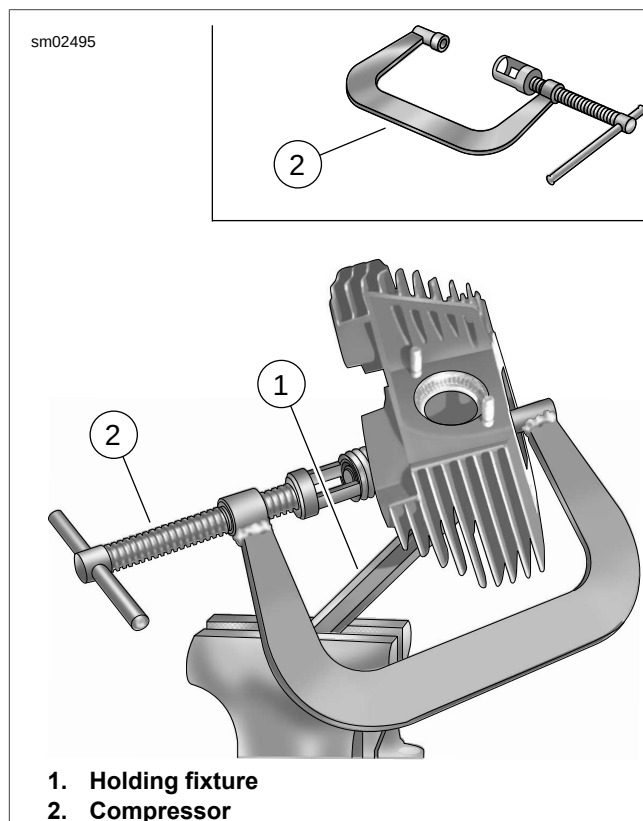
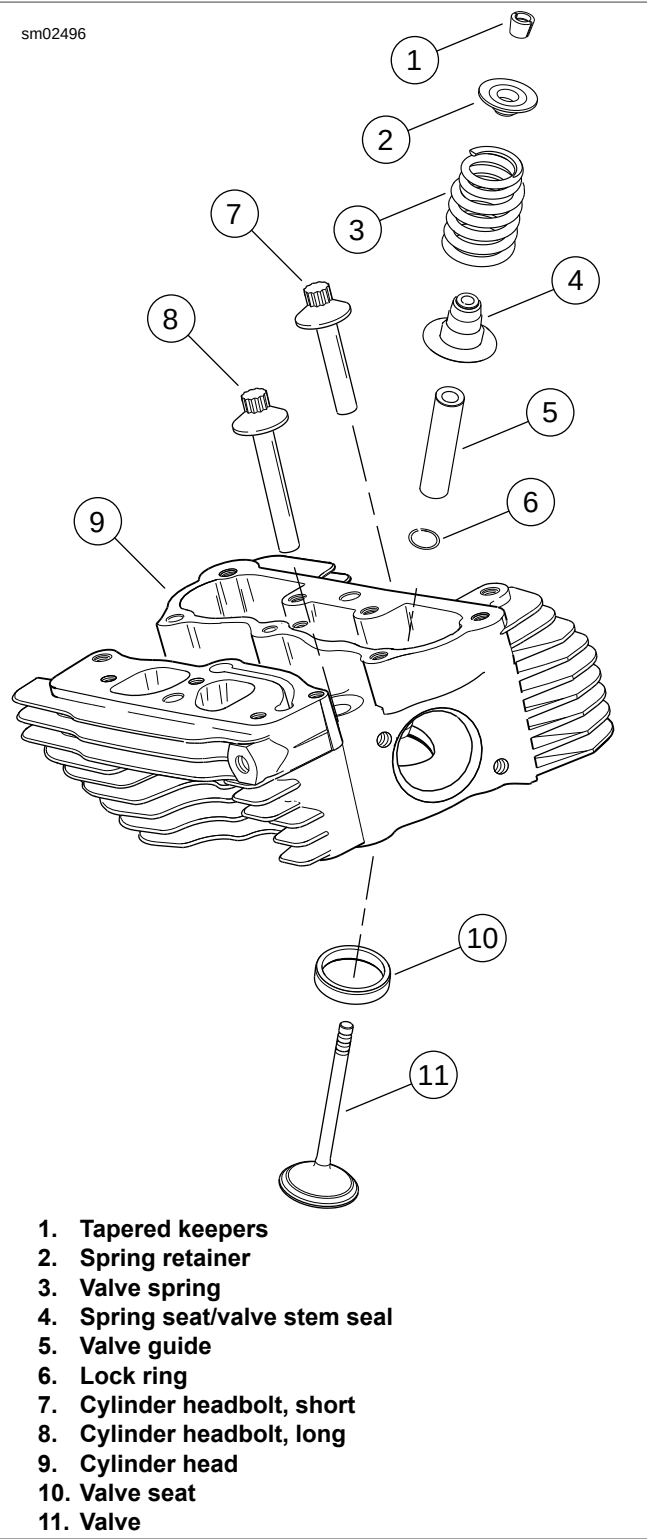

Figure 3-43. Valve Spring Compressor
Figure 3-44. Cylinder Head Assembly
3. See Figure 3-43. Release valve spring compression.
- a. Place VALVE SPRING COMPRESSOR (Part No. HD-34736-B) (2) over cylinder head. Center blunt end on the valve head. Seat adapter at end of forcing screw on the valve spring retainer.
- c. See Figure 3-44. If spring retainer (2) is not free of tapered keepers (1), give head of tool a sharp tap with a soft mallet. Using magnetic rod or small screwdriver, remove the keepers (1) from the valve stem (11) groove.
4. Remove the spring retainer (2) and valve spring (3).
5. Slide the valve (11) from the valve guide (5).
- 1. See Figure 3-44. Remove old gasket material from cylinder head (9). Gasket material left on sealing surfaces will cause leaks. Scraping may result in scratches or nicks.